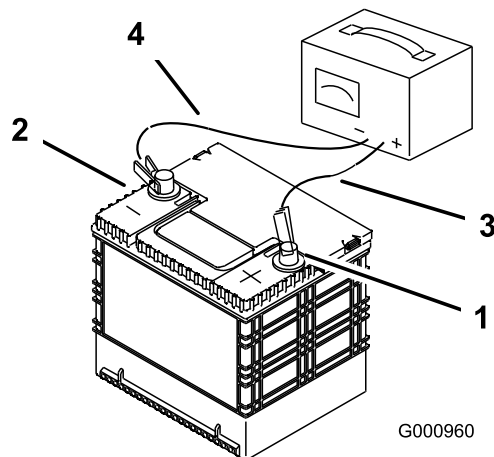

Figure 61
2. When the battery is fully charged, unplug the charger from the electrical outlet; then disconnect the charger leads from the battery posts (Figure 61).